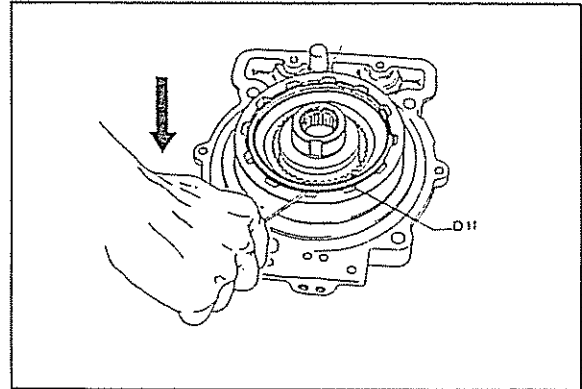

Figure B5
2.7 Using a suitable pin style snap ring pliers, remove the retaining ring (T2-2 #56) that retains the washer (T3-2 #26) and planetary assembly (T3-2 #22) to the adapter housing and remove the complete planetary carrier. Figure B5.
2.5. Using a suitable screwdriver remove the snap ring (T3-2 #48) that retains the reverse clutch plates (T3-2 # 45 & 47) into the adapter housing, and then remove the pressure plate (T3-2 #29) and clutch pack (3 bronze plates and 3 steel plates). See Figure B5.